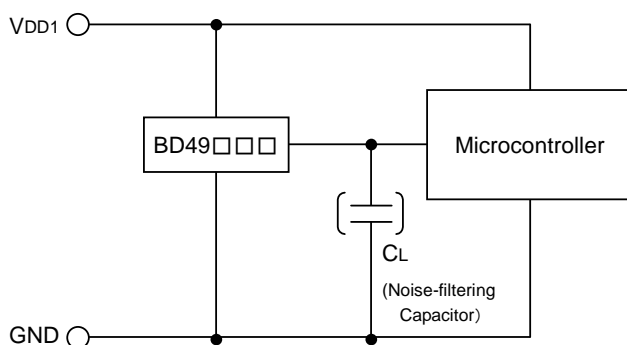

Fig.16 CMOS Output Type
Use CMOS output type (BD49□□G/FVE) or open drain output type (BD48□□G/FVE) attached a load resistance (RL) between the output and Vdd1. (As shown Fig.16)